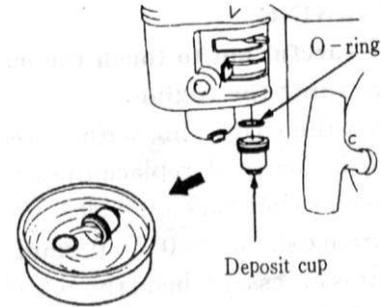

Fig. 27
4. Washing of Deposit Cup (Fig. 27)